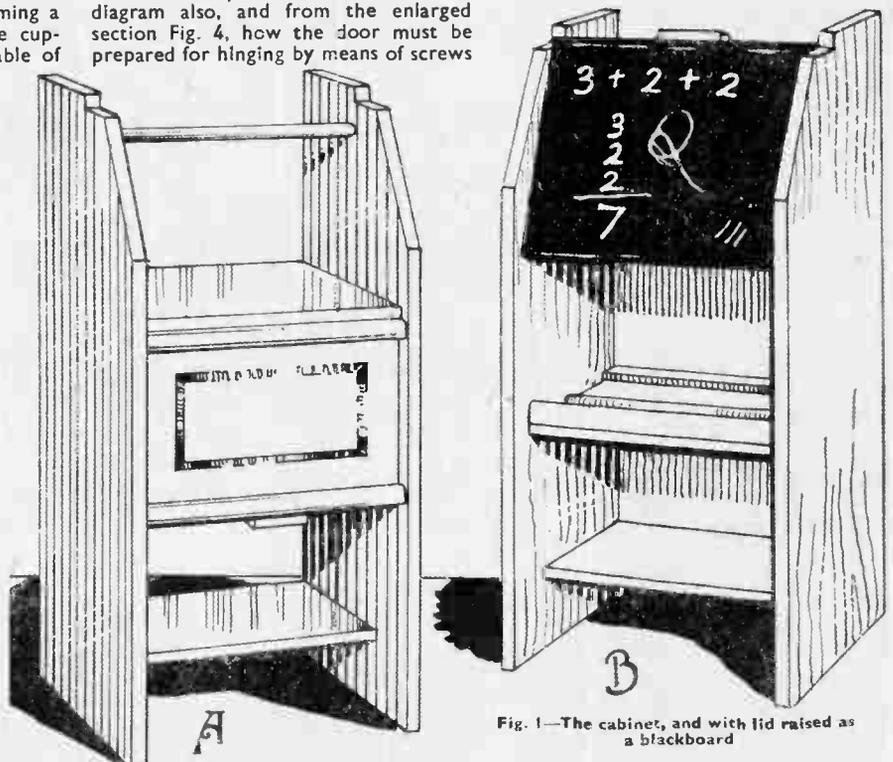

Fig. 1—The cabinet, and with lid raised as a blackboard
HERE is just the thing for the tiny tots, a toy cupboard and shelf for books and a blackboard all combined. In Fig. 1 we give two views of the cupboard, one with the cupboard closed at (A), and the one, (B), with the door of the cupboard turned up and forming a most convenient blackboard. The cupboard is quite spacious and capable of holding quite a lot of toys.